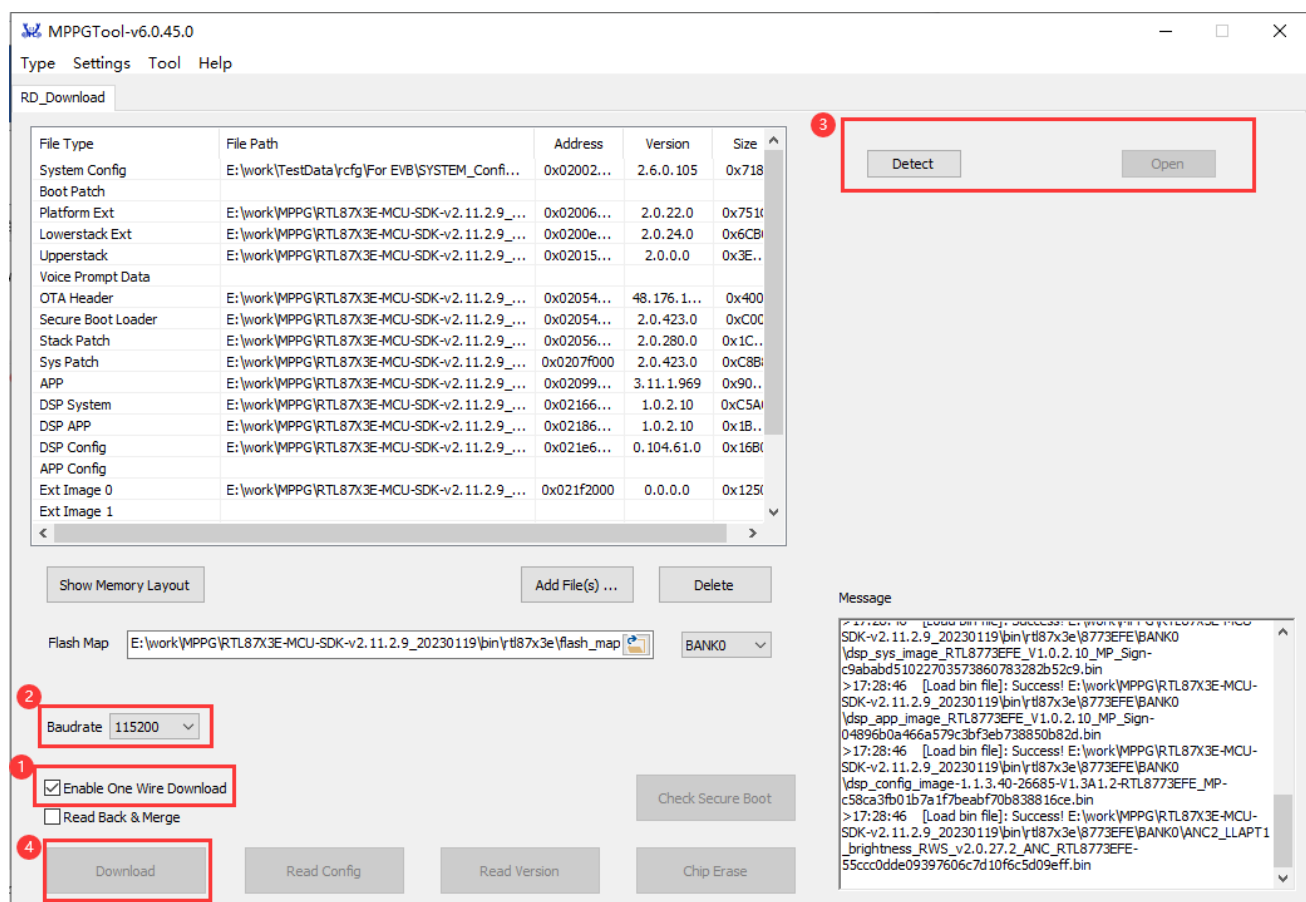

Figure 2-54 Check 'Enable One Wire Download' in RD_Download page
1. In RD_Download page, check ‘Enable One Wire Download’ (Figure 2-54), after loading the flash_map.ini and image files.